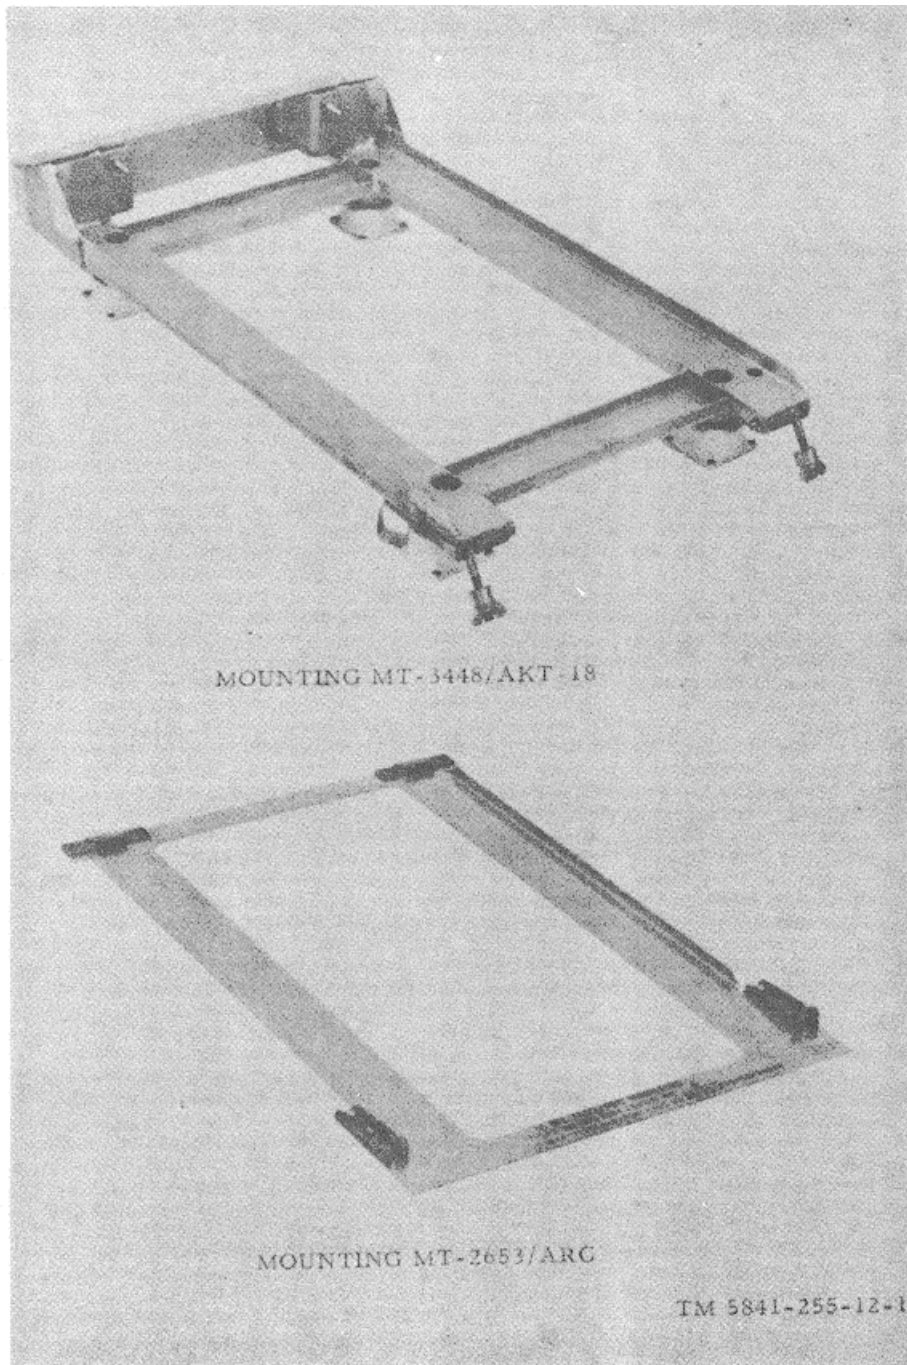

Figure 1-9. Mountings MT--448/AKT-18 and MT-265S/ARC.
a. *Mounting MT-3448/AKT-18 (fig. 1-9).* This mount secures Encoder, Video KY-565/AKT-18 when installed in the aircraft. Two tapered threaded pins at
b. *Mounting MT-2653/ARC* (fig. 1-9). Mounting MT-2653/ARC secures Transmitter, Radio T-991/AR when installed in the aircraft. Two holddown brackets at the rear of the mount help secure the rear of Transmitter, Radio T-991/AR. Two hook-type brackets, located in front, hold down the front end of Transmitter, Radio T-991/AR.